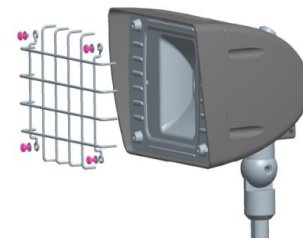

Fig.4
1. PC Cover – can be mounted to the fixture frame with four #8-32 screws – Fig.4